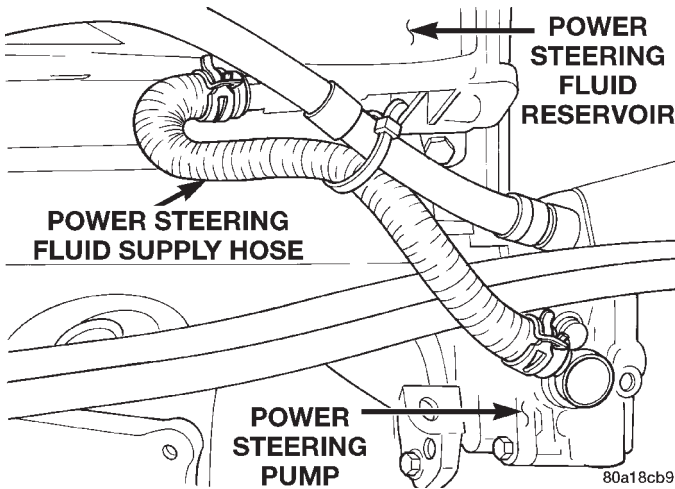

Fig. 22 Power Steering Fluid Supply Hose
(2) Remove the tie-strap (Fig. 22) holding the power steering fluid supply hose to the power steering pressure hose.
(3) Remove hose clamp, attaching power steering fluid supply hose to power steering fluid reservoir (Fig. 22). Then remove power steering fluid supply hose from power steering fluid reservoir.
(2) Install power steering fluid supply hose on power steering fluid reservoir fitting. Install hose clamp on power steering fluid supply hose at power steering fluid reservoir (Fig. 22). **Be sure hose clamp is installed on supply hose past upset bead on power steering fluid reservoir.**
(3) Install power steering fluid supply hose on power steering pump fitting. Install hose clamp on power steering fluid supply hose at power steering pump fitting (Fig. 22). **Be sure hose clamp is installed on power steering fluid supply hose past upset bead on power steering pump fitting.**
(4) Install the tie-strap (Fig. 22) holding the power steering fluid supply hose to the power steering pressure hose.